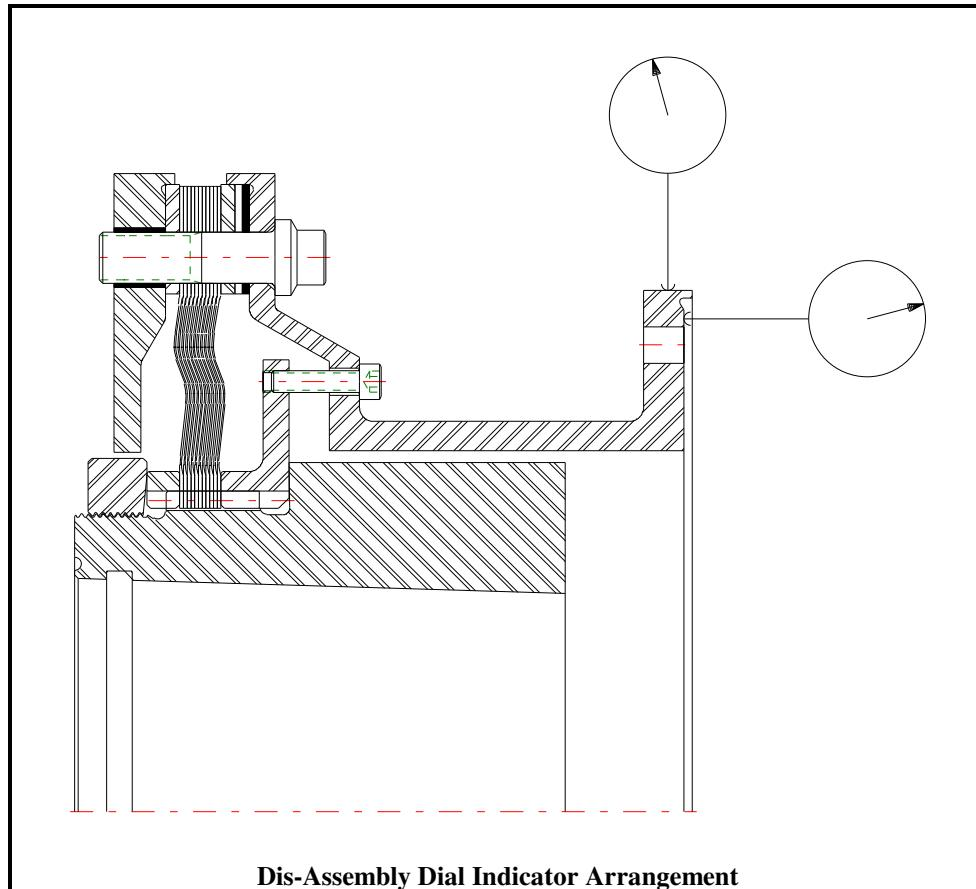

Figure 5-2
5.2.4 Place a dial indicator on the spacer connecting flange of the pack adapter and loosen the shipping hardware screws as needed to achieve a pack runout of less than .001 IN. (4) places at 90° apart on the pack adapter flange O.D. and face (see Figure 5-2).